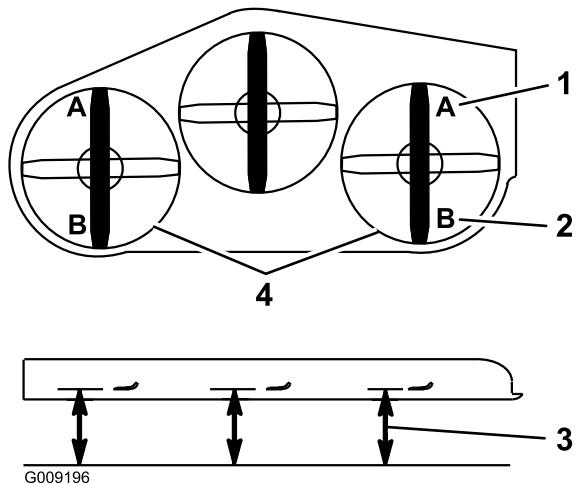

Figure 96
- 9. On both sides of the deck, measure from the level surface to the front tip of the blade (Position A) as shown in Figure 96.
- On both sides of the deck, measure from the level surface to the back tip of the blade (position B) as shown in Figure 96.